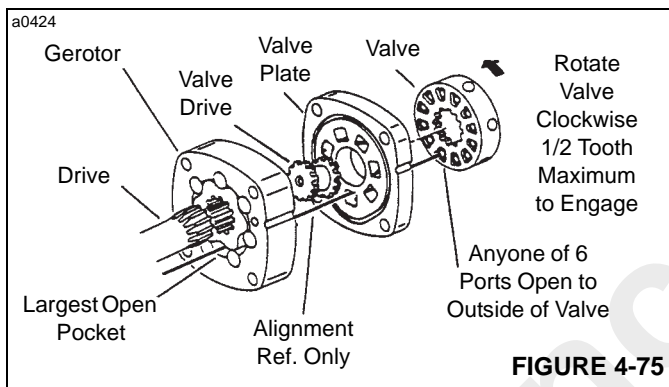

FIGURE 4-75
NOTE: Assembly at this time involves five steps (12, 13, 14, 15 and 16) in the timing of the motor. Timing determines the direction of rotation of the output shaft. Timing parts include the gerotor, valve drive, valve plate and the valve. See Figure 4-75.
- 13. Apply a light film of petroleum jelly to one of seals (3) and install seal in groove of valve plate (9).
- 14. Align the notch on the outside of valve plate (9) with the notch on gerotor (11) as shown in Figure 4-75.
- 15. Locate the timing slot opening in valve plate (9) which is line with the largest open pocket of the gerotor.